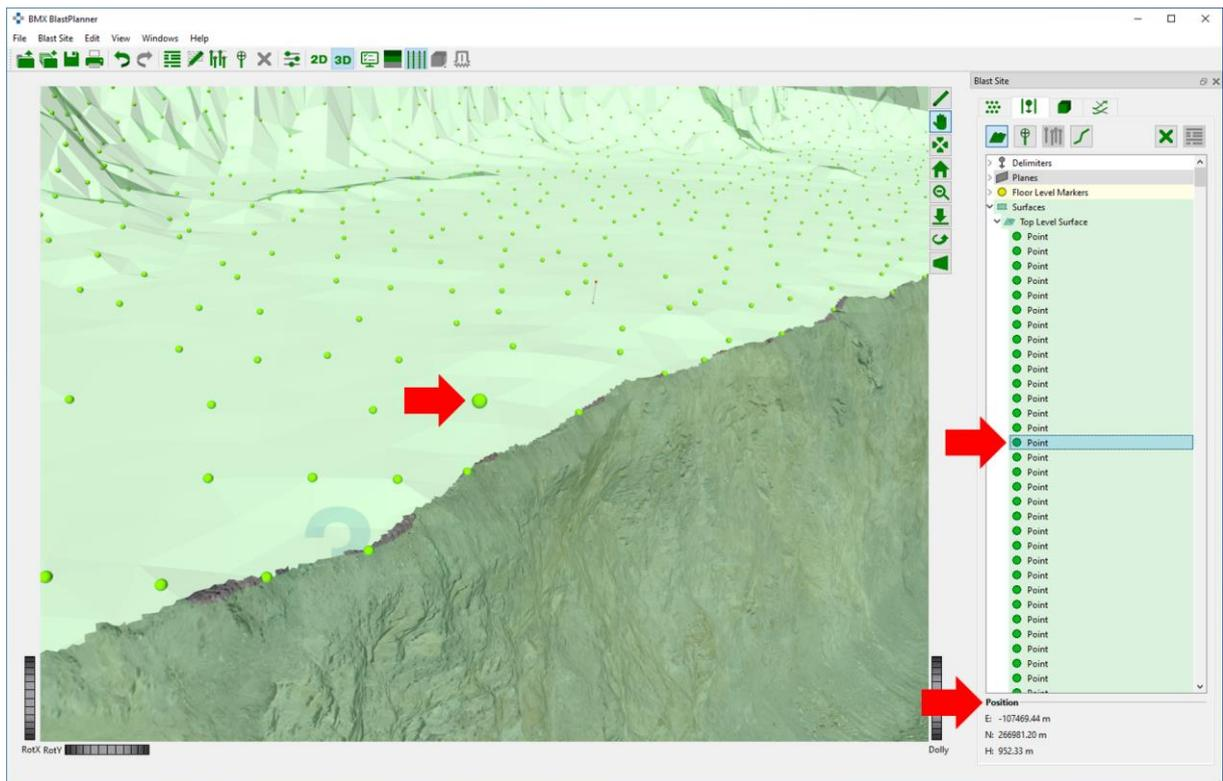

Figure 37: Highlighted TLS point
- A *TLS* point / (*Borehole*) *Collar Marker* is highlighted when selected in the *Blast Site Elements* list (Figure 37).
- The position of the *TLS* point / (*Borehole*) *Collar Marker* is displayed when selecting the item in the list (Figure 37).